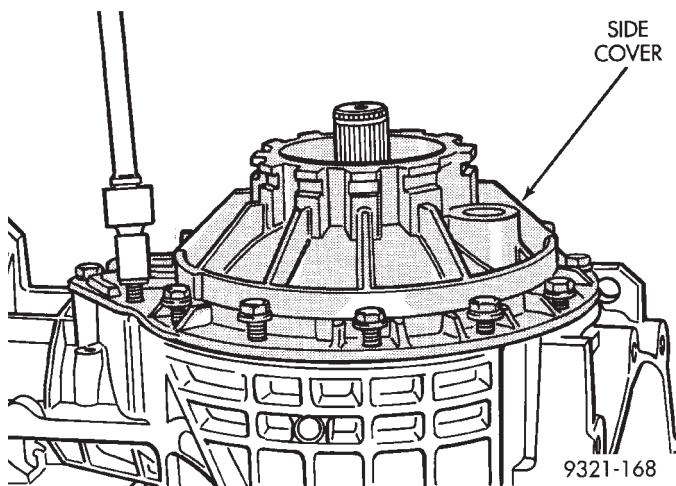

Fig. 289 Differential Cover Installation
(53) Apply a 1/8 inch bead of sealant to differential cover flange. Then install differential cover with sealant (Fig. 289) and tighten cover bolts.